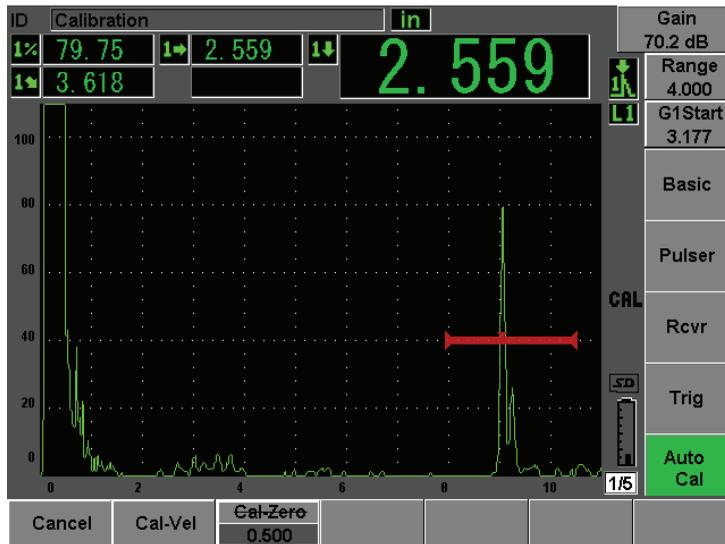

Figure 10-28 Example of a gated signal for velocity calibration
7. Adjust the value to match the known thickness of the gated indication (0.500 in. in this example), and then choose **Continue** to continue to the second calibration step (see Figure 10-28 on page 187).